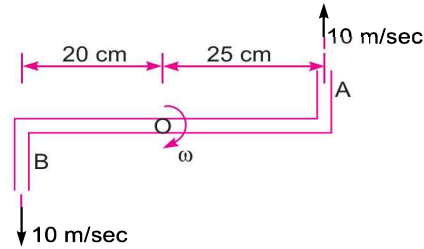

Fig. 6.29
**Problem 6.37** A lawn sprinkler shown in Fig. 6.29 has 0.8 cm diameter nozzle at the end of a rotating arm and discharges water at the rate of 10 m/s velocity. Determine the torque required to hold the rotating arm stationary. Also determine the constant speed of rotation of the arm, if free to rotate.